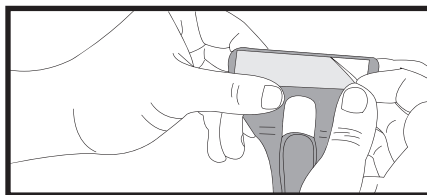

Figure 10; Remove Adhesive
Now that you have determined the final position of the HORIZONTAL BLIND MOUNT (B) verify the header is dry from pre-cleaning, then remove the backing on the adhesive strip [Fig. 10] and firmly press to attach it to the blind's header.